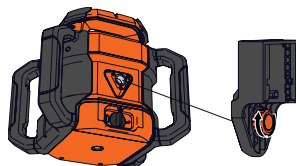

Figure 28
1. Insert the laser mount screw into the side 5/8"-11 screw thread of the unit and tighten. (Figure 28)